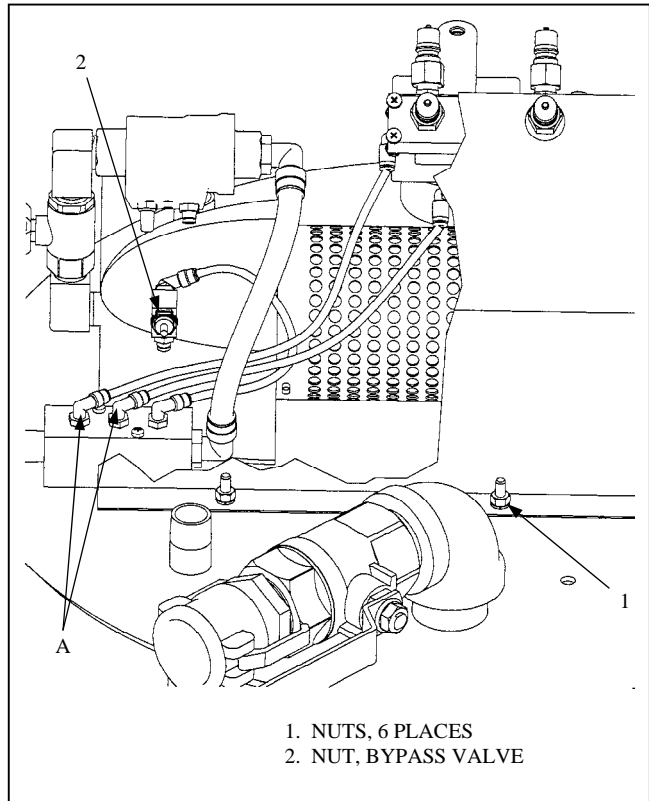

Figure 5-2. Vacuum System Assembly Cover Removal
- g. Detach pneumatic tube from Drain Tool Vacuum Group at connection points on manifold (Figure 5-2, reference arrow A).
- h. Remove nuts (1), six places; and bypass valve nut (2) to remove cover and Drain Tool Vacuum Group. Ensure that Auto Shut-off Bypass Valve is free from cover before removing. See Figure 5-2.